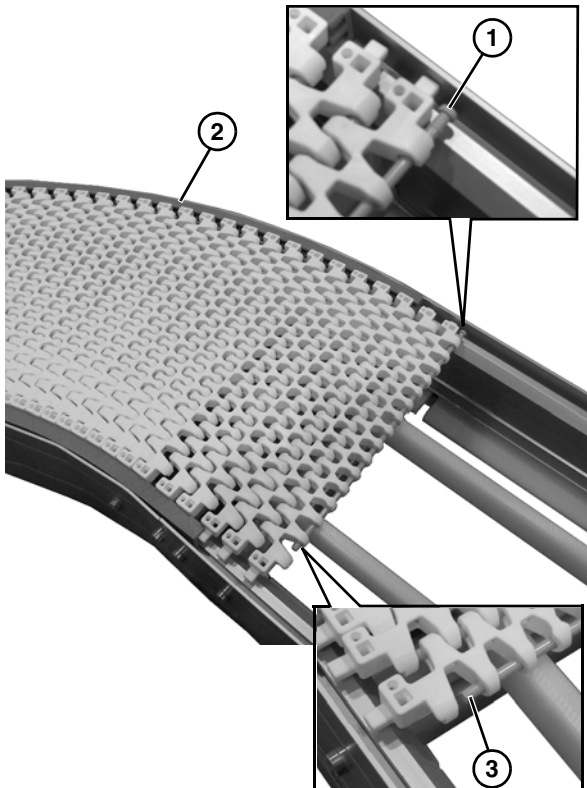

Figure 11
2. Orient the belt direction such that the pin heads (Figure 11, item 1) are on the outside of the belt radius (Figure 11, item 2). The straight portion on the pin (Figure 11, item 3) will be on the inside radius.